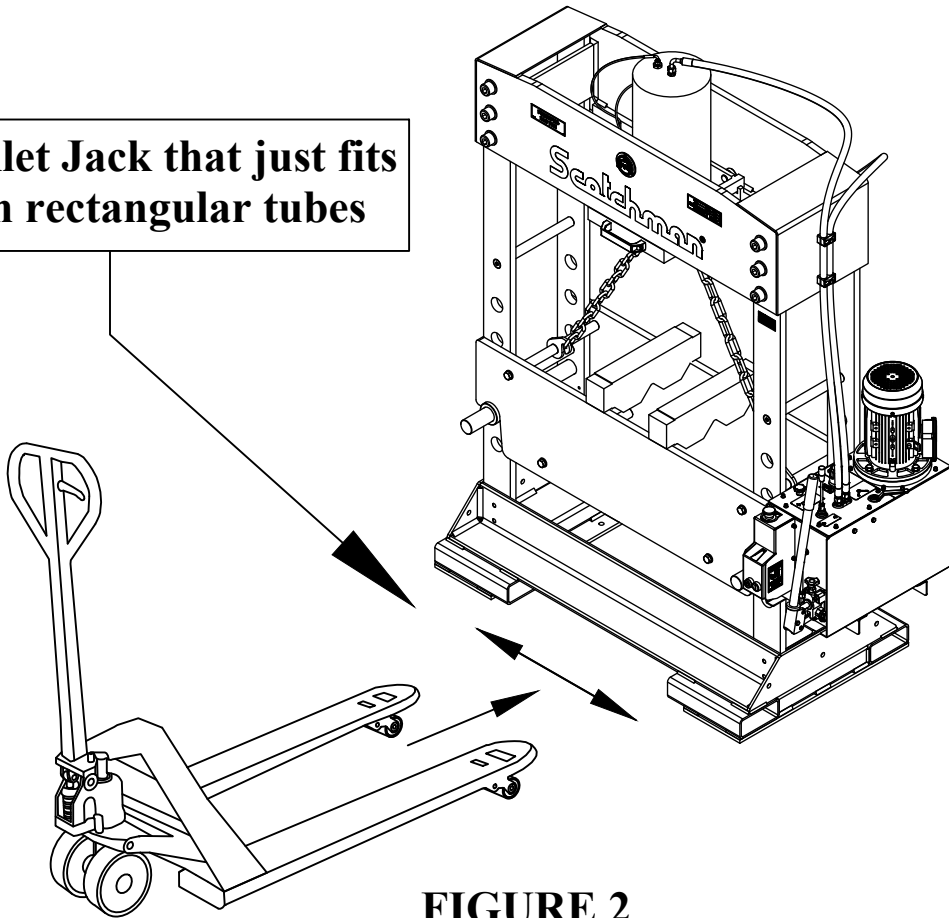

FIGURE 2
- See FIGURE 2 on the next page.